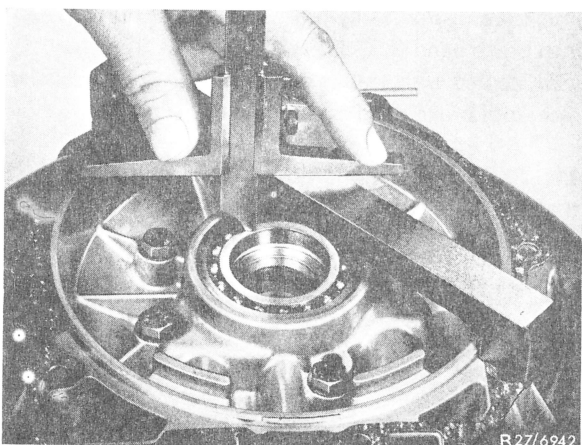

Fig. 56
**83** Place new gasket on front transmission housing and determine dimension "B" (Fig. 56).